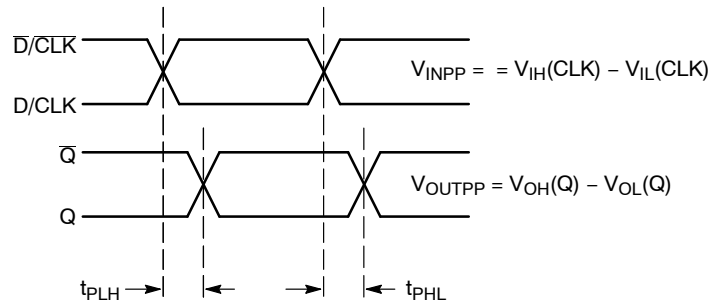

Figure 6. AC Reference Measurement
23. See Figure 6.  $t_{SKEW} = |t_{PLH} - t_{PHL}|$  for a nominal 50% Differential Clock Input Waveform.
30. See Figure 6.  $t_{SKEW} = |t_{PLH} - t_{PHL}|$  for a nominal 50% Differential Clock Input Waveform.